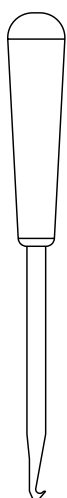

Fig. 1
- 4) Reposition the spring in the vice so the piston rod (A) points upward. Note: Oil will drain from the bottom of the spring. Using a rubber mallet and the appropriate sleeve from the tool kit, tap the guide (D) into the tube until the lock ring (C) is exposed.
- 5) Remove the colour coded ring (B).
- 6) Remove the lock ring (C) using the lock ring tool (see Fig. 1). Bend the locking upwards and inwards.